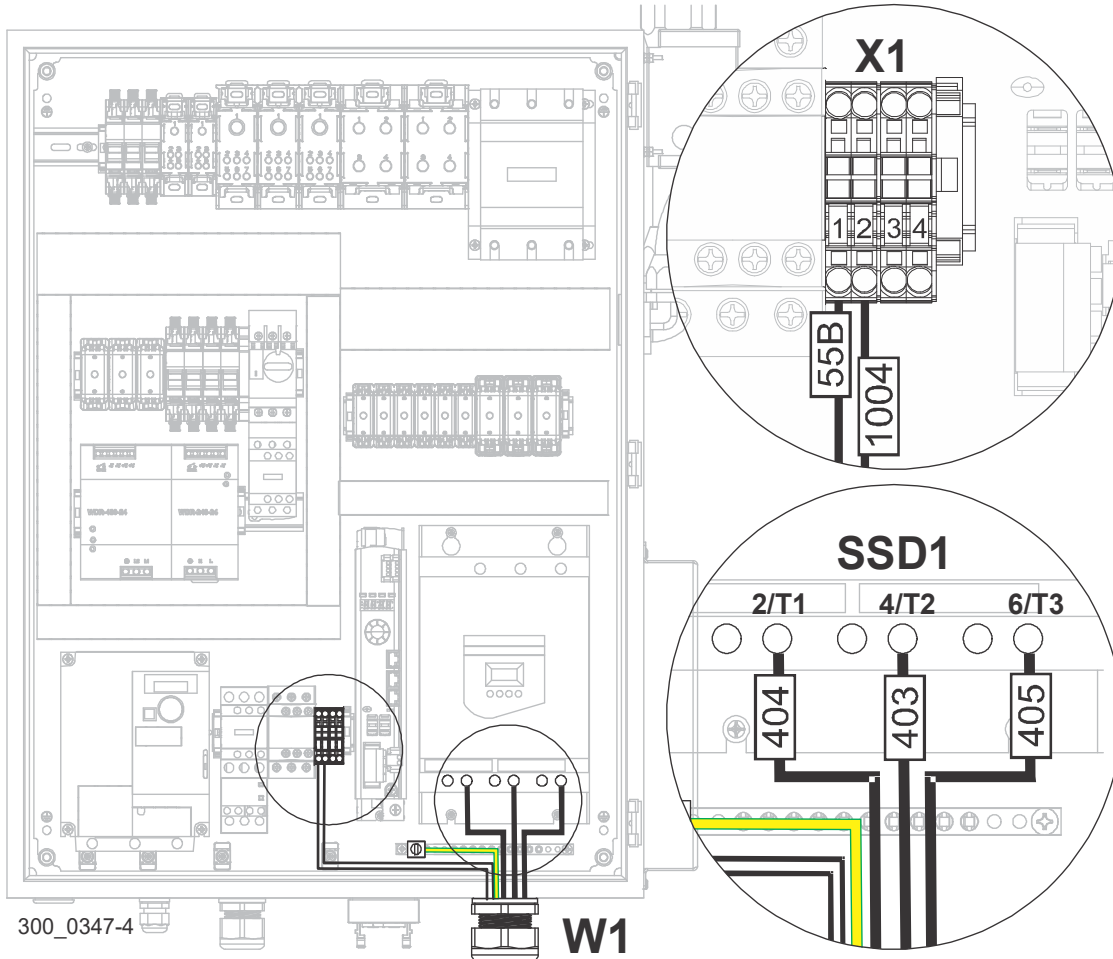

FIG. 3-15 HIGH VOLTAGE BOX
1. Route the blade motor cable (W1) through the connector W1 located at the bottom of the high voltage box and secure. See Fig. 3-15.